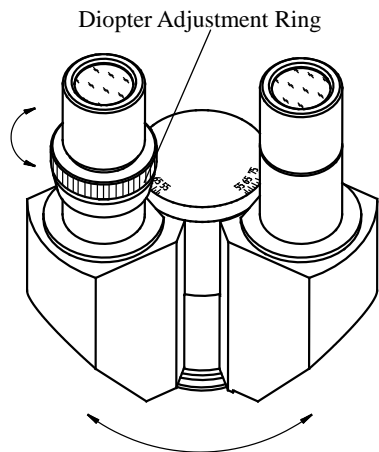

Figure 4
2) **Proper interpupillary distance**, or the distance between eyepieces, is crucial to the comfort of the user. Adjusting the interpupillary distance is accomplished through a “folding” action of the optical head, as in Figure 4.